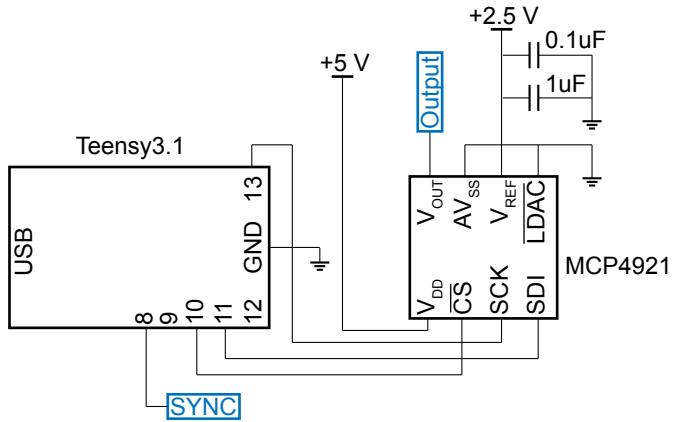

Figure 13: Schematic of the connection between Arduino UNO and the MCP4921.
1. Using Fig. 13 as a reference, connect the Teensy to the MCP4921 DAC. Connect the MCP4921's VDD pin to the output of the LM317 regulator (5 V). Connect the MCP4921's VREF pin to the LT1009 reference's output (2.5 V). Connect both AVSS and \overline{LDAC} of the MCP4921 to ground. A 0.1 μ F and a 1 μ F capacitor could be used at VREF to minimize noise at the reference. It is very important to keep your circuit (ICs, resistors, capacitors, wires, etc) organized. Use as short of a wire as possible between two connection points. Refer to Fig. ?? for an example layout.